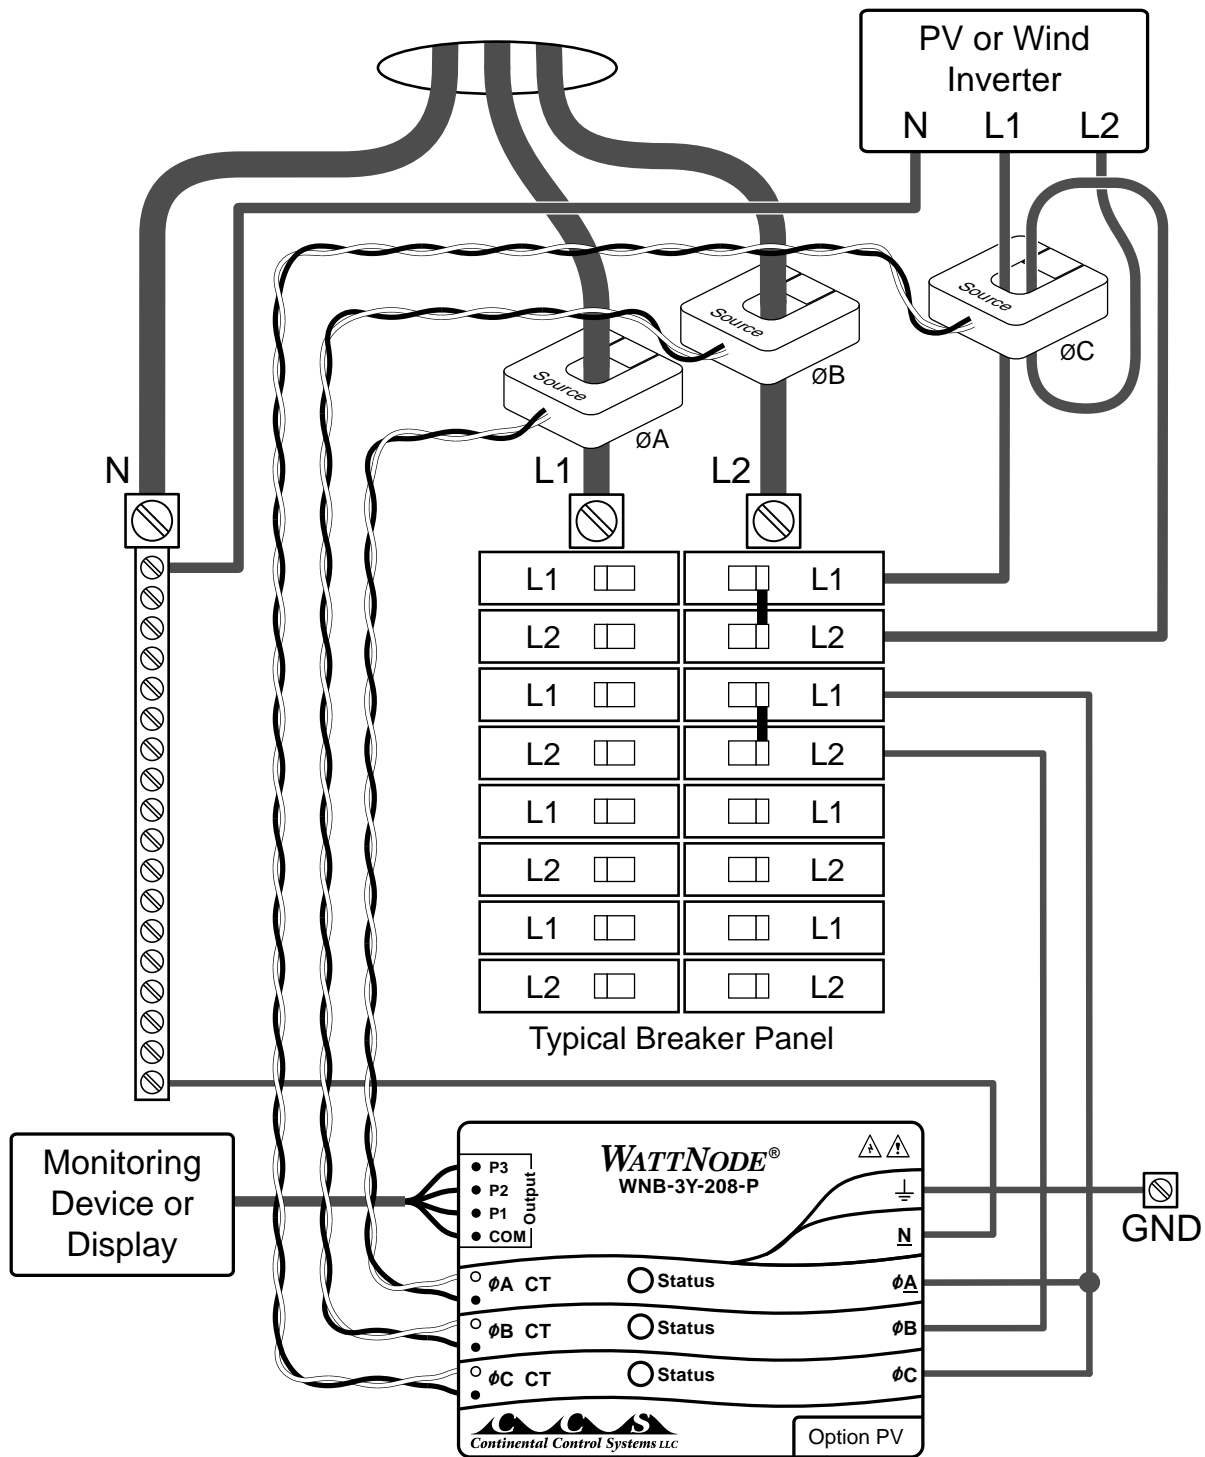

Figure 2: WattNode Installation Diagram with Two-Phase Inverter
- **Two-Phase Inverter on L1 and L2:** connect the **ØC** terminal on the WattNode's green plug to L1 (**ØA**) using a jumper wire or wire nut (**Figure 2**).
Connect the ϕA and ϕB WattNode phases to measure the total house consumption from the grid (see **Figure 2**). Jumper the ϕC green screw terminal to the ϕA (L1) terminal. Install the inverter CT around inverter L1 conductor with the “Source” face (or arrow) aiming toward the inverter. Then feed the inverter L2 conductor through the CT in the opposite direction. Since L2 is 180 degrees out-of-phase with L1, running it through the CT backwards inverts the phase measurement so that it matches L1. If this isn’t feasible, see **Inverter CT Alternatives** below for other options.
If you have multiple single-phase inverters and they are connected to both house phases (L1 and L2), then you can connect the WattNode as shown in **Figure 2**. Run the conductors for all inverters on L1 through the inverter CT so that the CT “Source” face (or arrow) aims toward the inverter. Then feed the conductors for all inverters on L2 through the CT in the opposite direction. Since L2 is 180 degrees out-of-phase with L1, running the wires through the CT backwards inverts the phase measurements so they match L1. See **Inverter CT Alternatives** below for other options.
Connect the WattNode as described for a **Two-Phase Inverter (Figure 2)**. Pass the extra L1 and L2 conductors for the multiple inverters through the inverter CT, being careful to feed all the conductors for L2 through the CT backwards. You may find it difficult to feed all the inverter conductors through a single CT; if so, see **Inverter CT Alternatives** below for other options.